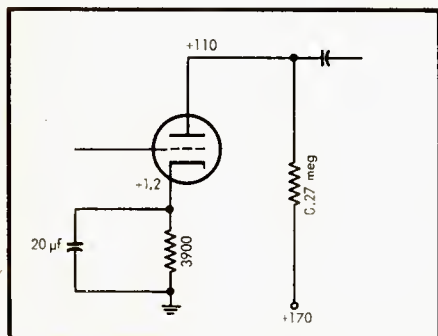

Fig. 1. Typical schematic of input stage of a high-gain amplifier with cathode resistor bypassed in the customary fashion.
A 20-μf capacitor at the power line frequency of 60 cps has a reactance of about 130 ohms. Figure 1 shows a common circuit of a triode with the 20-μf capacitor placing the cathode 130 ohms above ground and the 3900 ohm resistor providing a d.c. bias on the tube of 1.2 volts.
The writer had long used a standard two-way speaker, with the woofer in an 8-cu. ft. bass-reflex box of conventional design, and while the reproduction quality has been considered excellent, the low-frequency output did not compare with that of a good theatre system. Thinking from this point, the next step appeared to be in the direction of a corner speaker, yet utilizing the reflex action of a vented cabinet. Basically, therefore, the new design could still be described as a bass-reflex cabinet, but it occupies the corner of a room and is arranged so that the vents are loaded by a horn comprised of the walls and the sides of the cabinet enclosure. The plan view of the cabinet is shown in Fig. 1, with the vent openings A-A' along the sides. Thus the vents are loaded by the straight-sided "horn" between the wall and the cabinet.
Fig. 1 (above). Plan view of the new design, showing vents at either side between the cabinet and the wall and the horn loading provided by the wall and the cabinet sides.
Getting down to a specific design, therefore, the cabinet takes the shape shown in Fig. 1, for a cross section at the plane of the low-frequency cone, and at (A) of Fig. 3 at the plane of the center of the TV picture tube. The top of the low-frequency cabinet has the outline shown in the solid line at (B), with the superstructure shown by the dotted lines. The top is 39 inches from the floor, and the corners of the top meet the side wall $36\frac{1}{2}$ inches from the corner. Allowing for the volume of the speaker well and speaker end of the tube enclosure, the net volume of the cabinet is 8.5 cu. ft. This does not include the